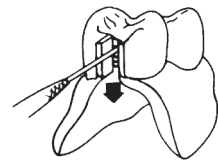

Fig. 19
2. Remove the old spring with the aide of a small screwdriver or pointed instrument (Fig. 19).